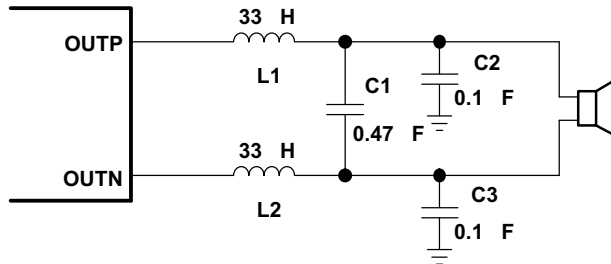
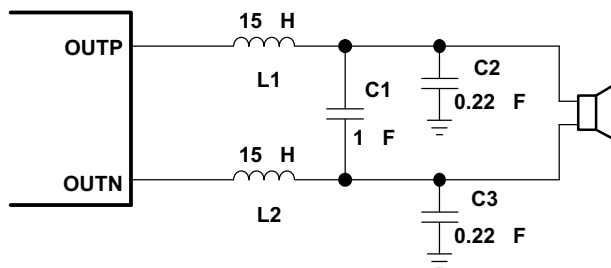
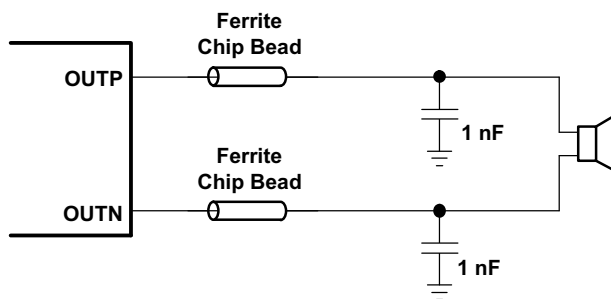
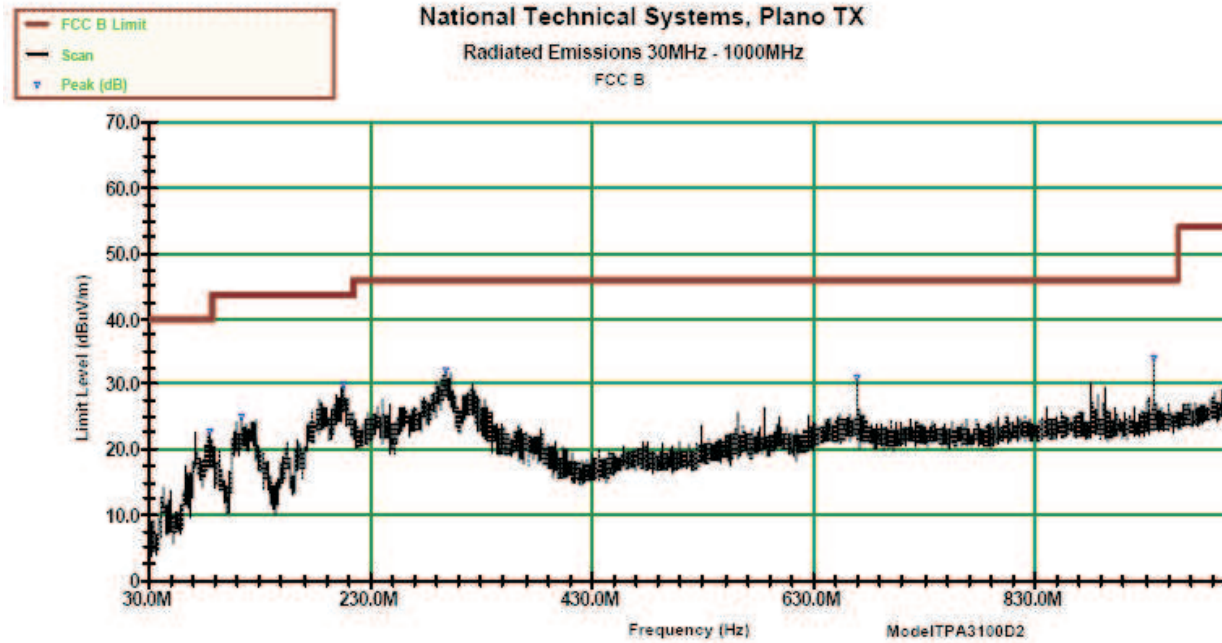

Figure 25. Typical LC Output Filter, Cutoff Frequency of 27 kHz, Speaker Impedance = 8 Ω
Figure 26. Typical LC Output Filter, Cutoff Frequency of 27 kHz, Speaker Impedance = 4 Ω
Figure 27. Typical Ferrite Chip Bead Filter (Chip Bead Example: Fair-Rite 2512067007Y3)
Figure 28. Radiated Emissions Prescan 30 MHz - 1000 MHz
Using the LC filter in Figure 25, the TPA3100D2 EMI EVM passed the FCC Part 15 Class B radiated emissions with 21 inch speaker wires. Quasi-peak measurements were taken for 4 configurations, and the TPA3100D2 EMI EVM passed with at least a 5.6-dB margin. A plot of the peak measurement for the horizontal rear configuration is shown in Figure 28.
- Output filter—The ferrite EMI filter (Figure 27) should be placed as close to the output terminals as possible for the best EMI performance. The LC filter (Figure 25 and Figure 26) should be placed close to the outputs. The capacitors used in both the ferrite and LC filters should be grounded to power ground. If both filters are used, the LC filter should be placed first, following the outputs.